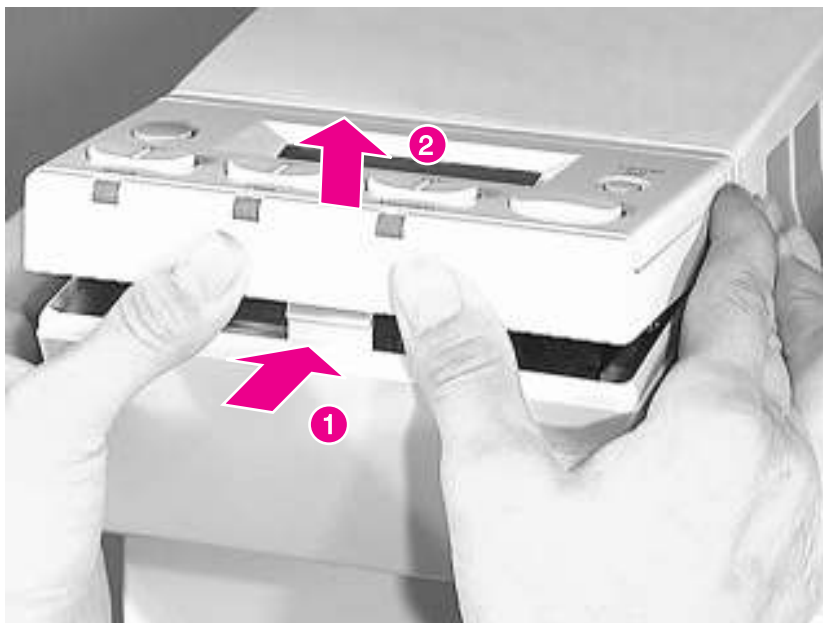
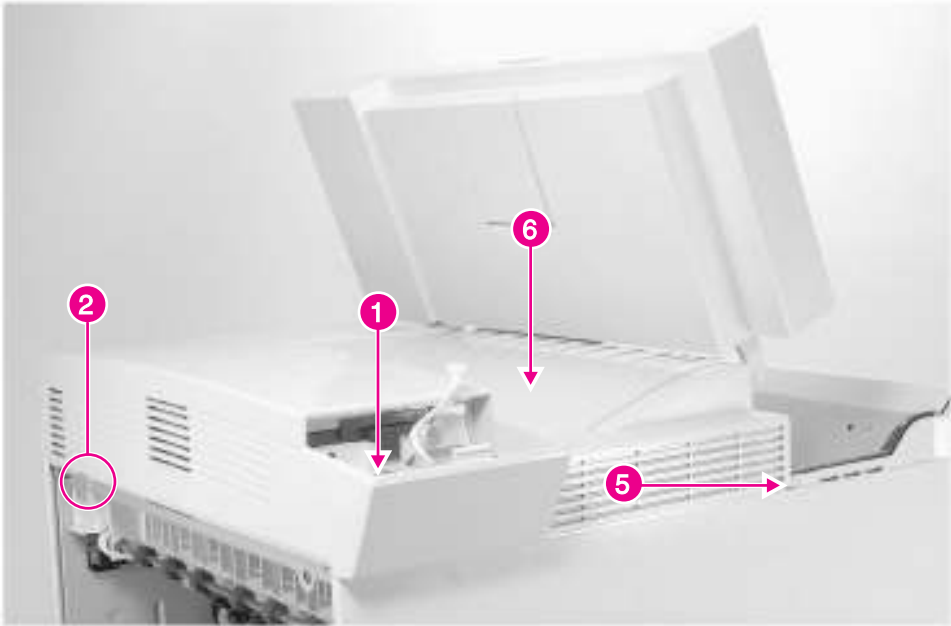

Figure 6-3 Control Panel (1 of 2)
Figure 6-10 Top Cover (1 of 2)
- 1 While pushing in on the center area (figure 6-3, callout), lift up on the forward edge of the control panel to release the plastic retaining tab.
- 1 Remove the Control Panel (see figure 6-3 on page 163), then remove 1 screw (figure 6-10, callout 1).
- 2 Open the Diverter Assembly access door, and remove 1 screw (figure 6-10, callout 2).
- 4** Lift (and hold) the top cover door up, and carefully pull out on the cover to release the retaining tab (figure 6-10, callout 5).
- 5** Hold the Standard Output Bin (figure 6-10, callout 6) down while carefully and slowly lifting the top cover straight up until it clears the Standard Output Bin Full sensor flag and the Delivery Unit.
- 1** Hold the top cover door up and the Standard Output Bin (figure 6-10, callout 6) down while lowering the cover into position.
- Top Cover (see figure 6-10 on page 171)
- 2 Remove the top cover (see figure 6-10 on page 171).